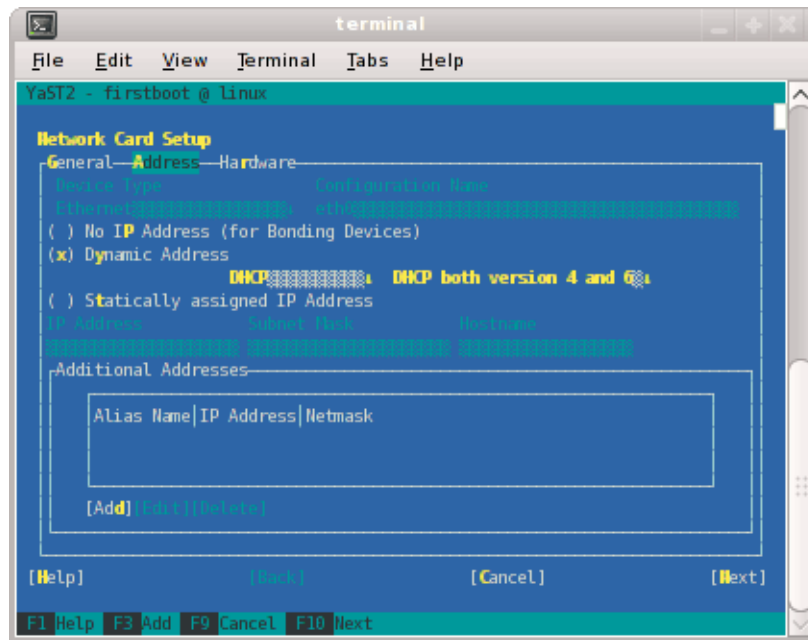

Figure 1-10 Network Card Setup Screen
8. The **Network Card Setup** screen appears, as shown in Figure 1-10 on page 17. SGI suggests using static IP addresses and not DHCP for admin nodes. Select **Statically assigned IP Address**. Once selected, you can enter the IP Address, Subnet Mask, and Hostname.